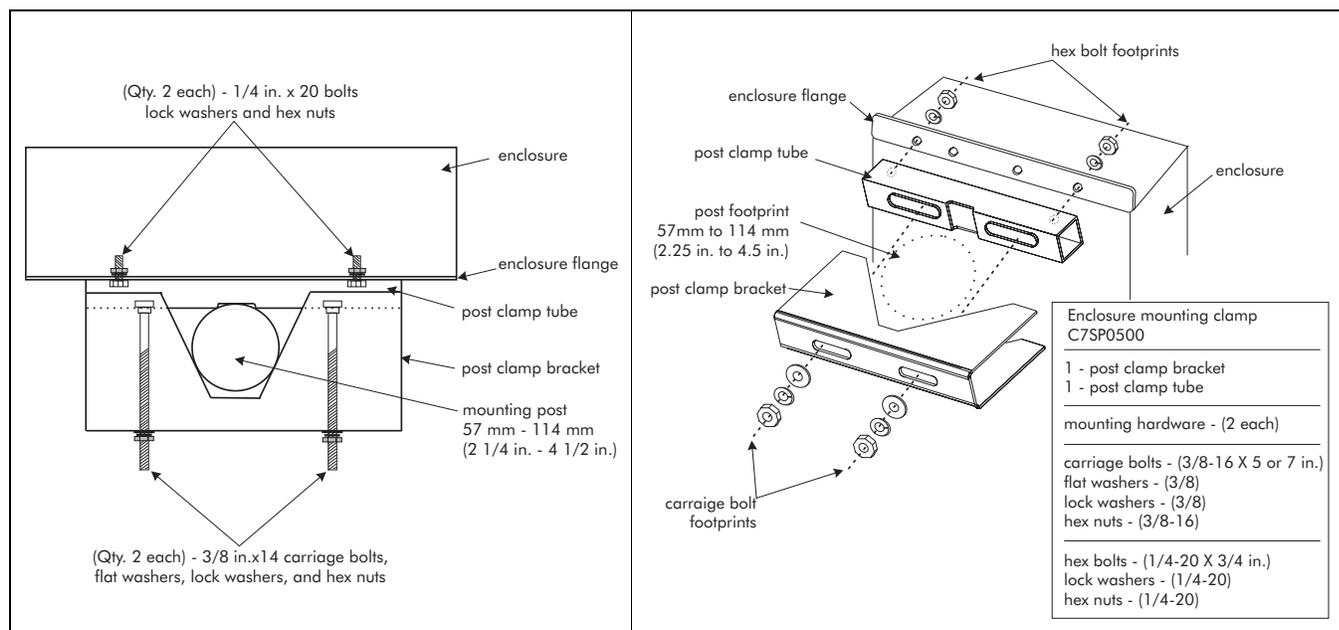

Figure 5-1 Post-mounting Intelli-FIELD enclosures
- post mounting (57 to 114 mm (2.25 to 4.5 in.) O.D. steel post) - two enclosure mounting clamps plus four each hex-nuts, flat washers, lock washers and carriage bolts (C7SP0500 - Qty. 2) refer to Figure 5-1